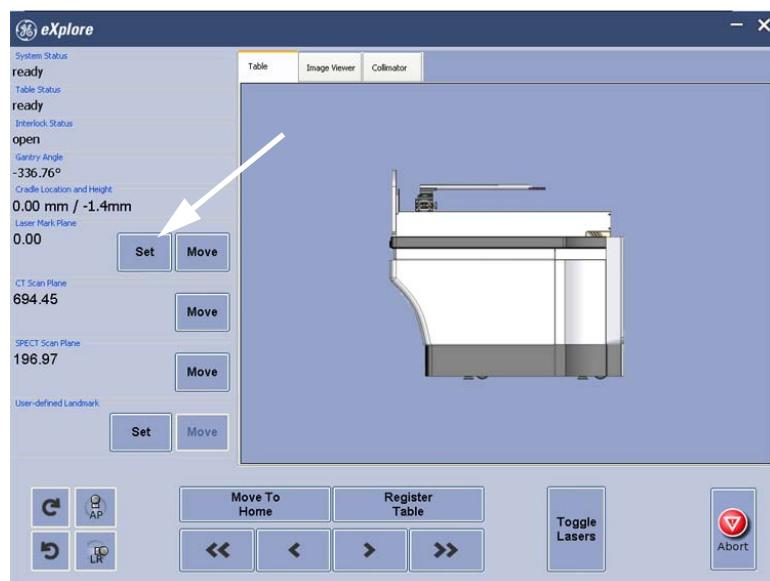

Figure 7-114
1. Move the table to home, gantry to home, and turn on the lasers (Toggle Lasers button) using the Tableside Controller touch screen (Figure 7-114).
4. Set the laser landmark (arrow in Figure 7-114).
1. Attach the mouse cradle and turn on the landmark laser (Toggle Lasers button in Figure 7-114).
4. On the touch screen, locate the Laser Mark Plane group and click the Set button (arrow in Figure 7-114). This will define a laser landmark at the current table position. Setting a laser landmark will automatically define the landmark positions at the SPECT and CT scan planes.
Perform the following steps while next to the scanner. The touch screen can be used to control the position of the table and the setting of the laser landmark (Figure 7-114).